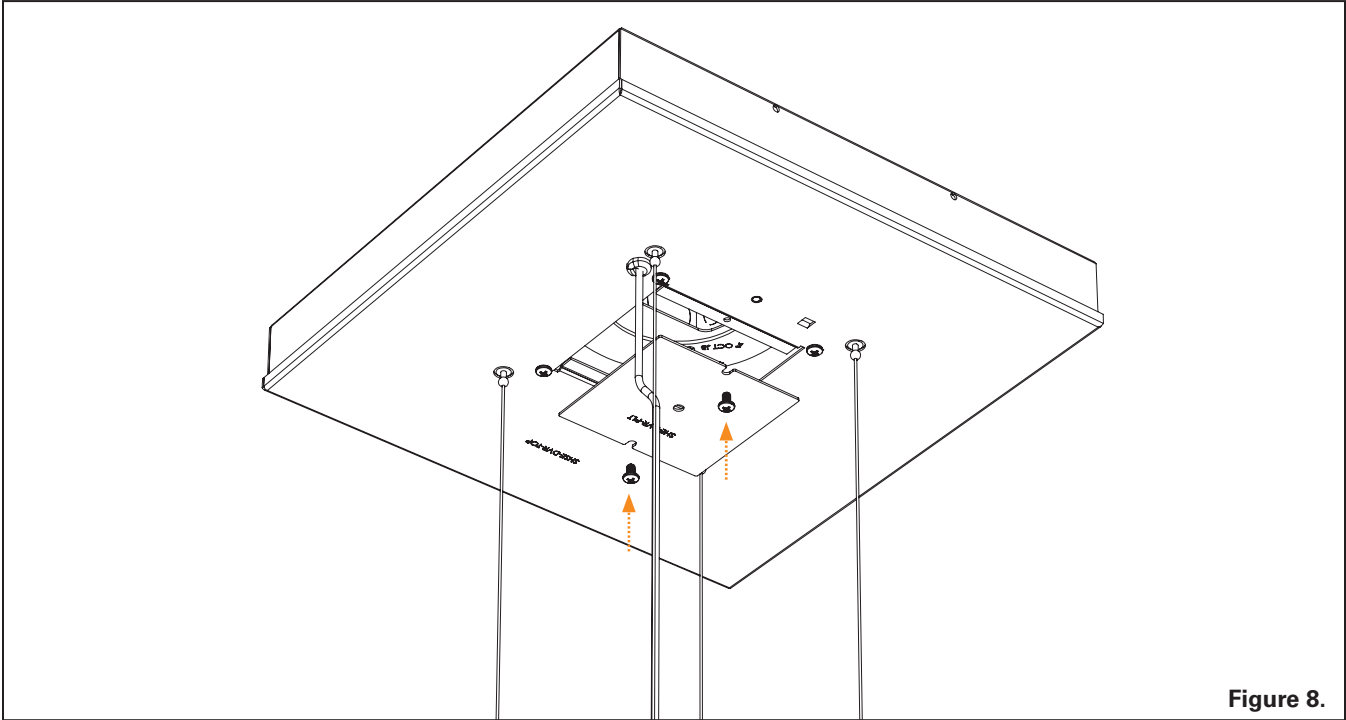

Figure 8.
**Step 8.** When the final height is determined and leveling is complete, either cut the excess Air Craft Cable or tightly spool it up with a tie wrap. Wrap and tie excess low voltage wire and tuck into the Driver Compartment. Ref. Figure 8.